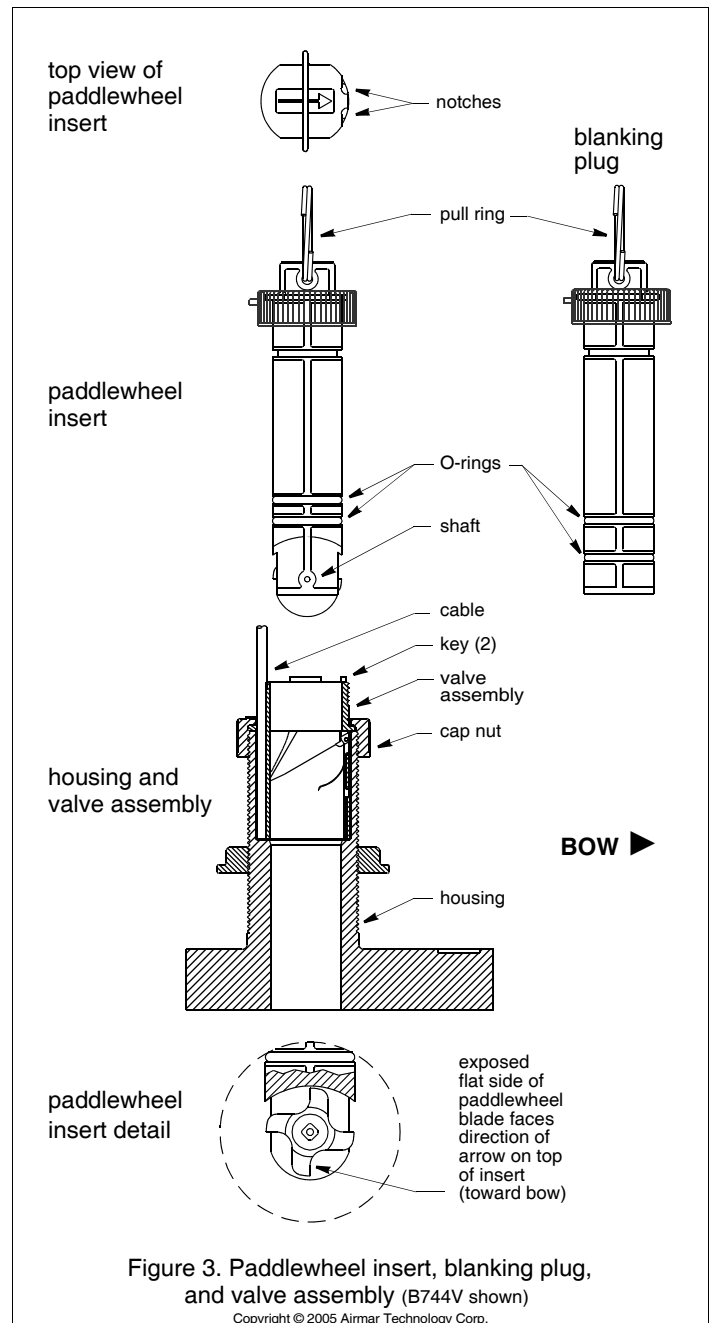

Figure 3. Paddlewheel insert, blanking plug, and valve assembly (B744V shown)
1. After the sealant cures, inspect the O-rings on the paddlewheel insert (replace if necessary) and lubricate them with the silicone lubricant supplied (see Figure 3). The O-rings must be intact and well lubricated to make a watertight seal.
The multisensor incorporates a self-closing valve which minimizes the flow of water into the vessel when the paddlewheel insert is removed (see Figure 3). The curved flap valve is activated by both a spring and water pressure. Water pushes the flap valve upward to block the opening, so there is no gush of water into the boat.
1. On the blanking plug, inspect the O-rings (replace if necessary) and lubricate them with silicone lubricant or petroleum jelly (Vaseline®) (see Figure 3). The O-rings must be intact and well lubricated to make a watertight seal.
4. Slide the blanking plug into the housing. Seat it into place with a pushing twisting motion until the keys fit into the notches (see Figure 3). Screw the INSERT nut in place and **hand-tighten** only. Do not over tighten.
3. Separate the paddlewheel insert from the valve assembly by unscrewing the INSERT nut (see Figure 3). Grasp the pull ring and pull slowly upward.
5. To reinstall the valve assembly, inspect the O-rings on the paddlewheel insert (replace if necessary) and lubricate them with silicone lubricant or petroleum jelly (Vaseline®) (see Figure 3). The O-rings must be intact and well lubricated to make a watertight seal.
1. Using the new paddlewheel shaft, push out the old shaft about 6mm (1/4"). With pliers, remove the old shaft (see Figure 3).